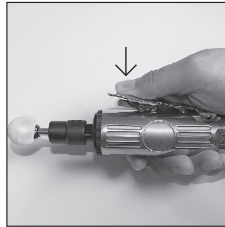

Figure 5
- Push forward the lever block (Part #3) and press down on the lever trigger (Part #2). How far the lever trigger is pressed determines the tool rotation speed. Then the tool starts to work. (See Figure 5)